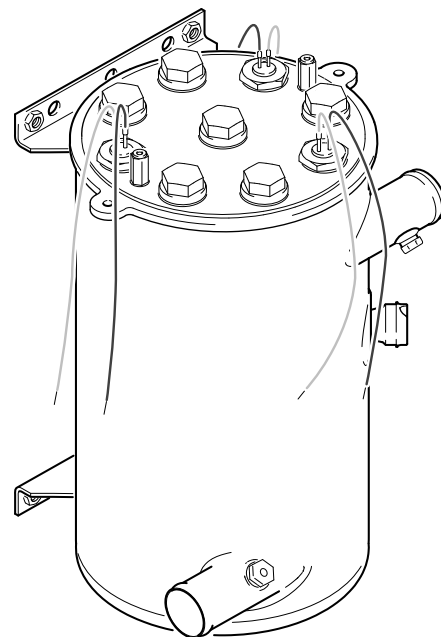

Fig. 805
4. Place heat exchanger into a vertical mounting position (see Fig. 805).